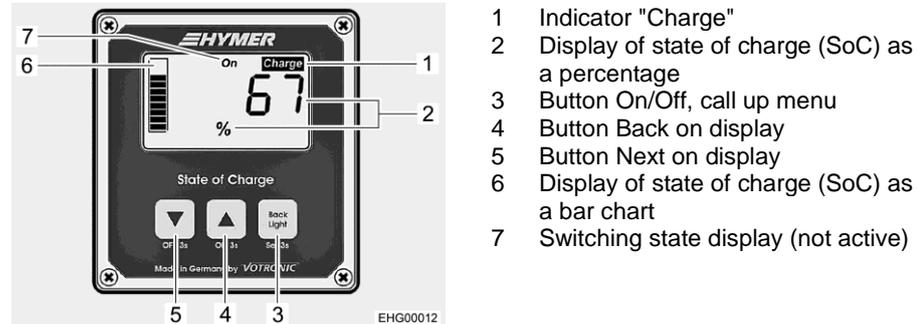

Fig. 128 Display panel (display of state of charge)
**Display backlight** When pressing one of the panel buttons, the display backlight is switched on automatically. If no button is pressed for 3 minutes, the backlight is switched off again automatically. The display backlight can be switched off manually by pressing the button (Fig. 128,3).
**Displaying state of charge (SoC)** The display shows the state of charge of the lead battery and the lithium battery (SoC). The value of the SoC is displayed as a percentage (Fig. 128,2) and, additionally, as a bar chart (Fig. 128,6).
- If the display is showing the voltage indicator: press button (Fig. 128,4) or button (Fig. 128,5) briefly to go to the display of the SoC (Fig. 128,2).
When SoC value drops below 20 %, the indicator "Charge" (Fig. 128,1) starts flashing. In this case, recharge the batteries.
- If the display is showing the SoC value: press button (Fig. 128,4) or button (Fig. 128,5) briefly to go to the display of the battery voltage (Fig. 129,1).